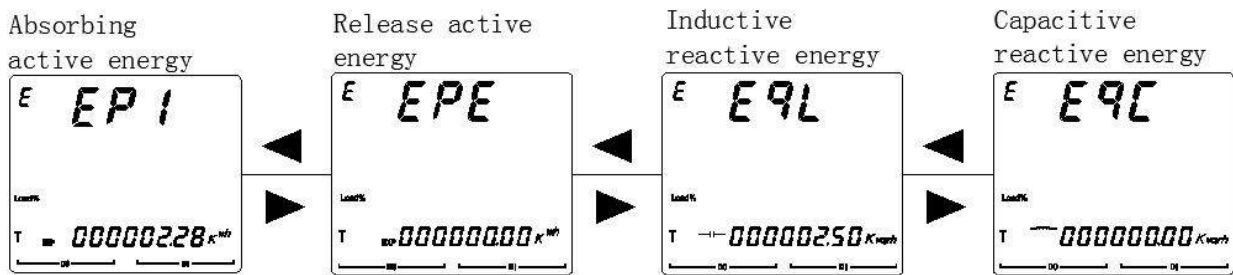

Figure 16
5.2.6 View the power parameters of the AMC72L/96L as shown in Figure 16.